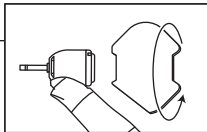

Fig. 47
- 2) Mount the head cap wrench over the head cap, and remove the cap by turning it counter-clockwise. (Fig. 47)